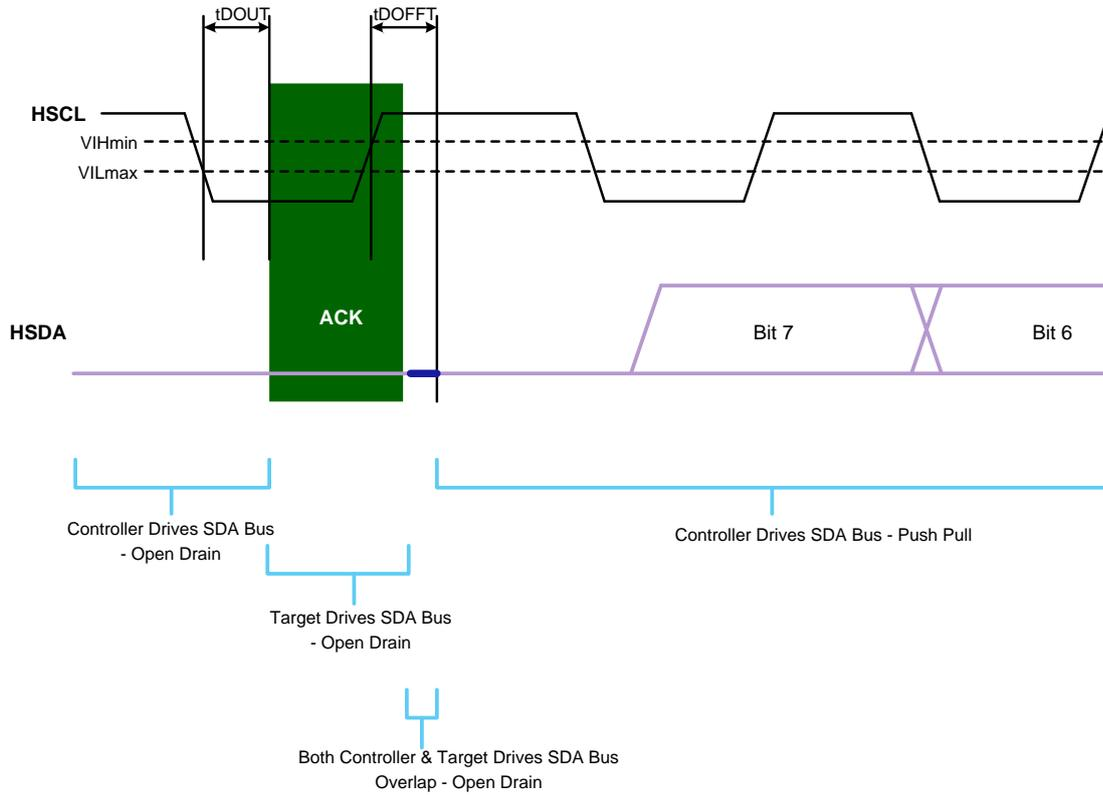

Figure 8. Target Open Drain to Host Push Pull Hand Off Operation
1. See Figure 8 to see how the transition occurs from Target Open Drain (ACK) to Host Push Pull Operation (1st bit of Addr, bit [7]).
1. See Figure 8 to see how the transition occurs from Target Open Drain (ACK) to Host Push Pull Operation (1st bit of Data).